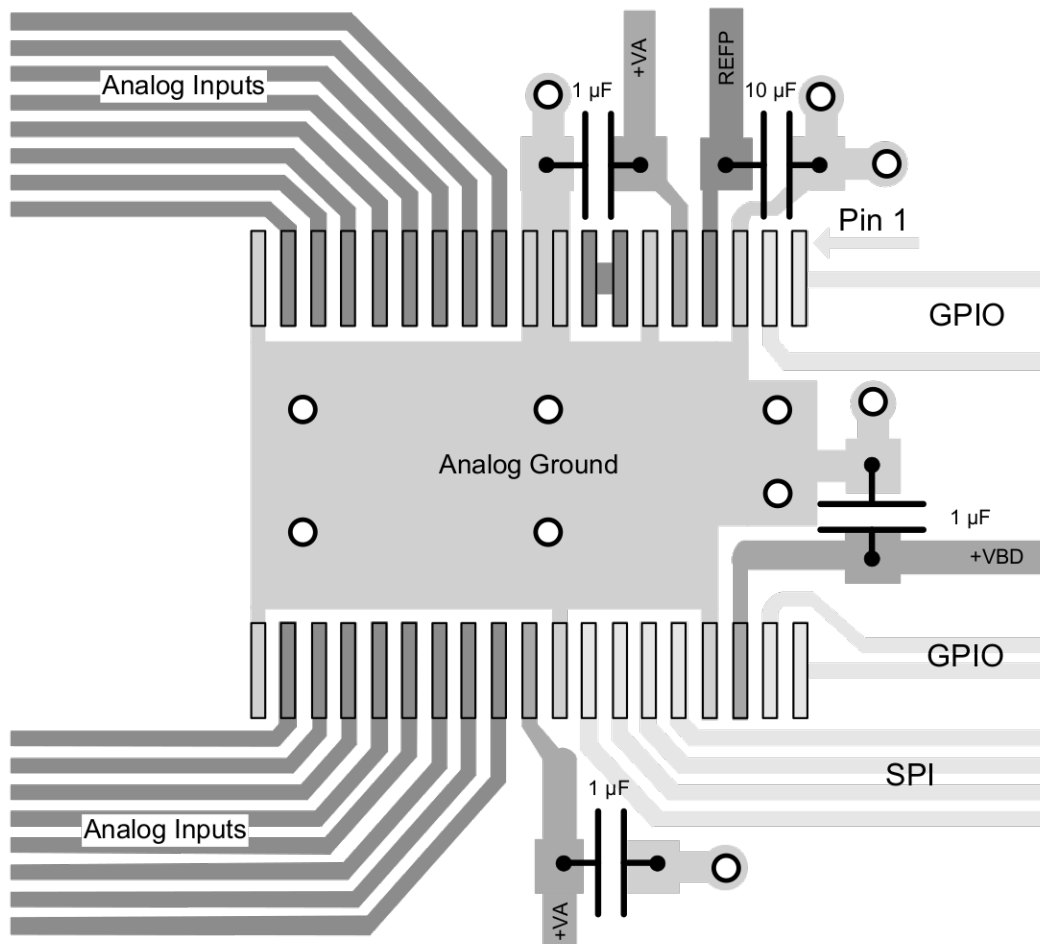
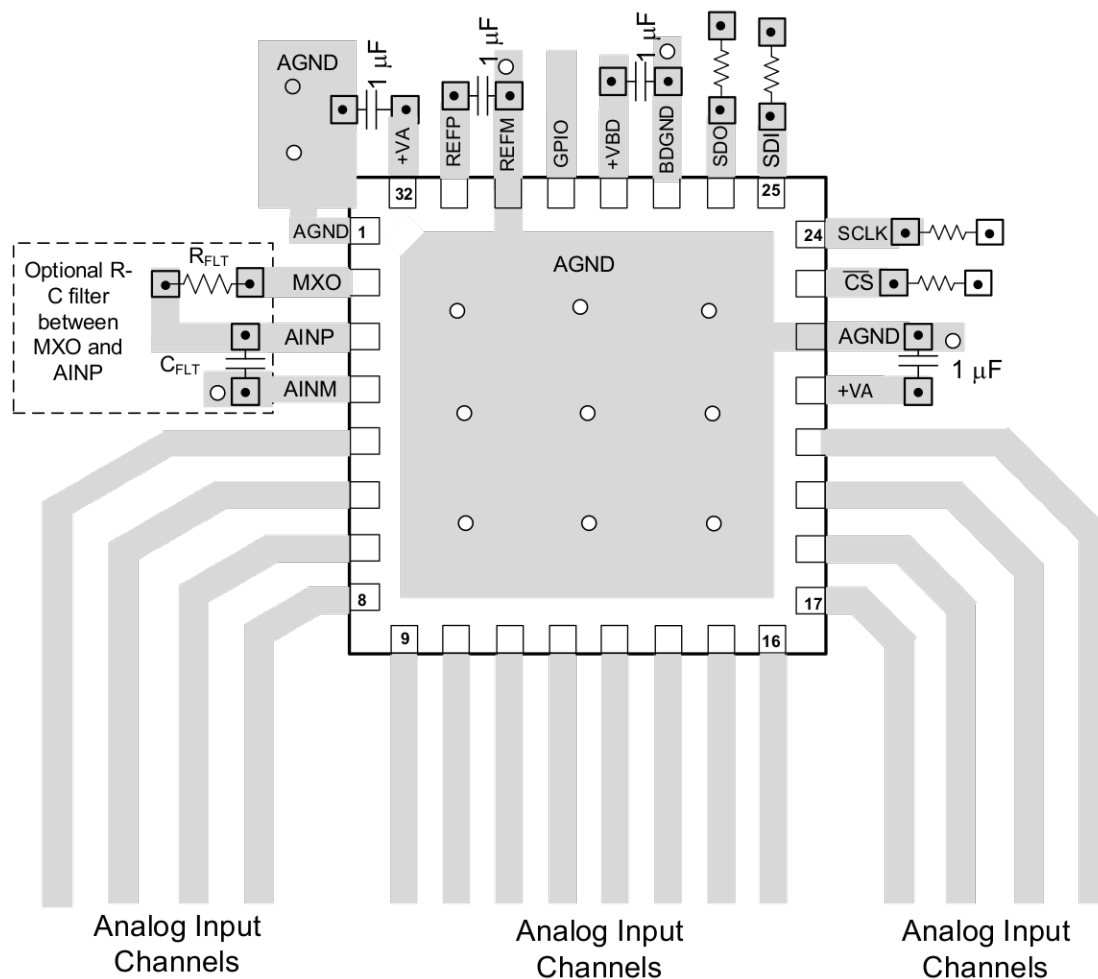

Figure 69. Recommended Layout for the TSSOP Packaged Device
Figure 70. Recommended Layout for the VQFN Packaged Device
- The power sources must be clean and properly decoupled by placing a capacitor close to each of the three supply pins, as shown in Figure 69 and Figure 70. To minimize ground inductance, ensure that each capacitor ground pin is connected to a grounding via by a very short and thick trace.
- The REFP pin requires a 10- $\mu$ F ceramic capacitor to meet performance specifications. Place the capacitor directly next to the device. This capacitor ground pin must be routed to the REFM pin by a very short trace, as shown in Figure 69 and Figure 70.
The full-power bandwidth of the converter makes the ADC sensitive to high frequencies in digital lines. Organize components in the PCB by keeping digital lines apart from the analog signal paths. This design configuration is critical to minimize crosstalk. For example, in Figure 69, input drivers are expected to be on the left of the converter and the microcontroller on the right.